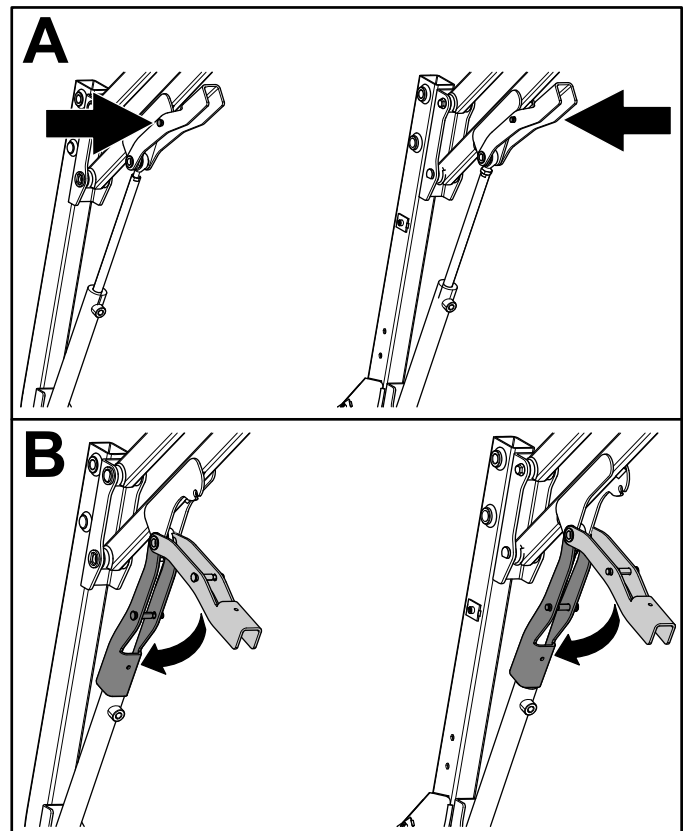

Figure 36
- A. Push the pin on magnetic safety lock inward (Figure 36).
- B. While still holding the pin in, lower magnetic safety lock onto the hydraulic cylinder (Figure 36).